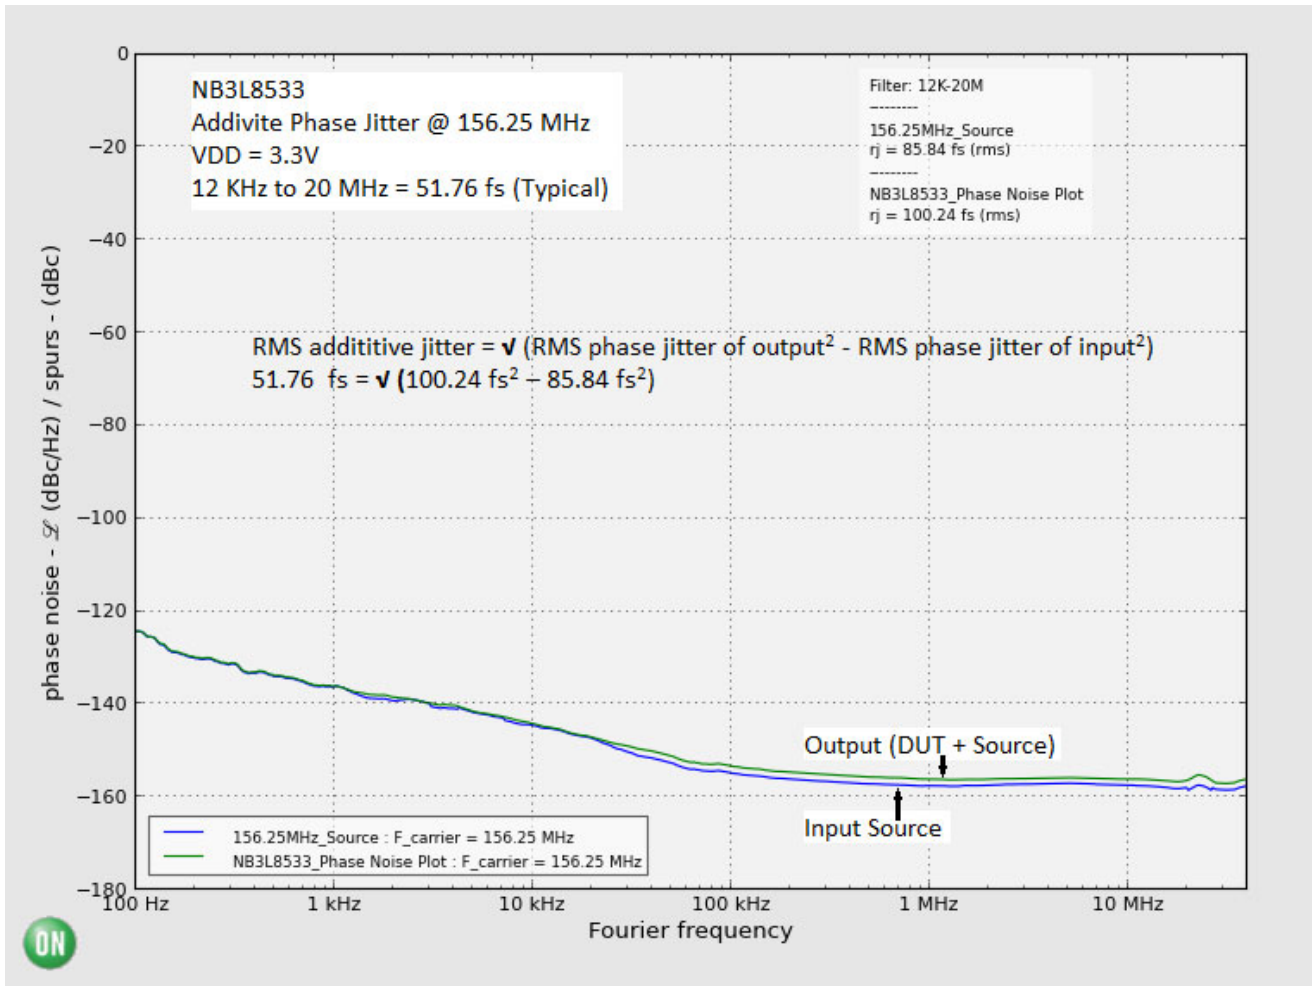

Figure 3. Typical Phase Noise Plot at  $f_{\text{carrier}} = 156.25$  MHz at an Operating Voltage of 3.3 V, Room Temperature
1. After CLK\_EN switches, the clock outputs are disabled or enabled following a rising and falling input clock edge as show in Figure 3.